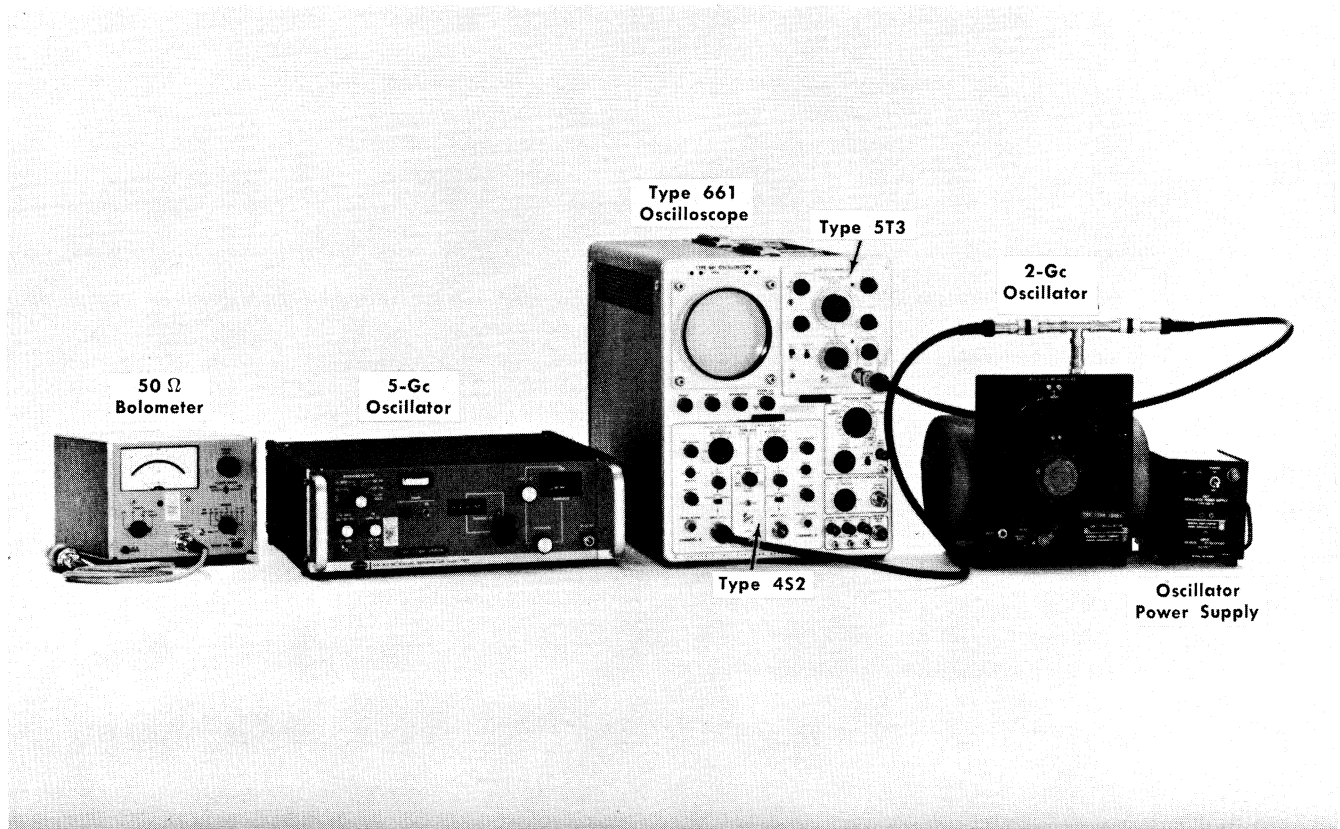

Fig. 5-40. Test equipment setup for step 29.
- a. Test equipment setup is shown in Fig. 5-40.